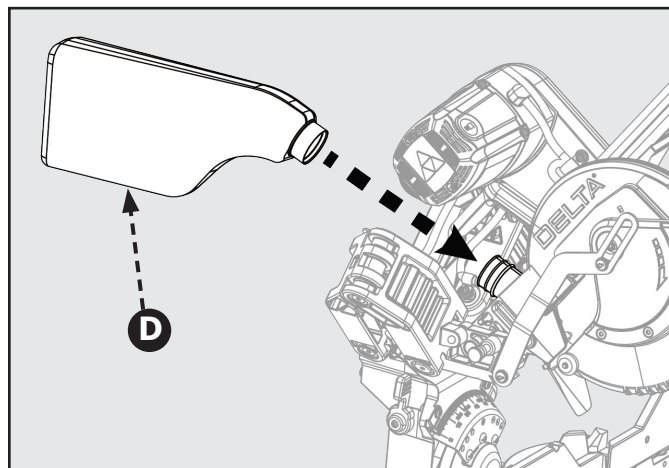

Figure 10
The Tool includes a dust collection bag (D) that attaches over the exhaust port on the upper blade guard. Slide the plastic collar onto the dust exhaust port on the back of the saw head. See Figure 10